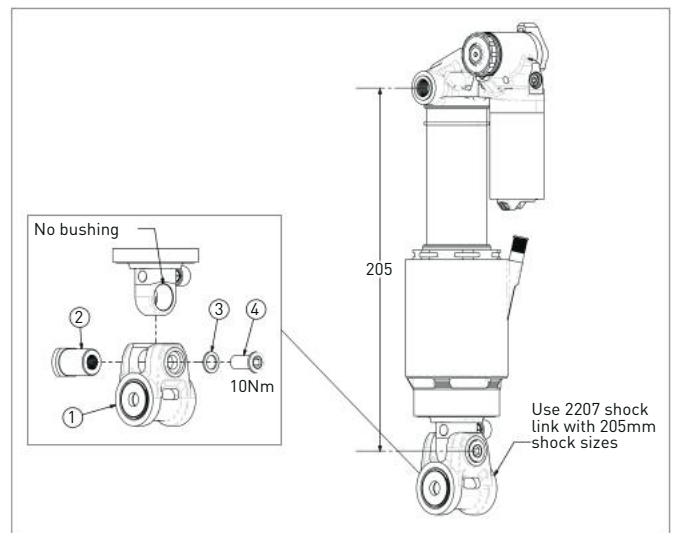

Figure 1
6. If the new or serviced rear shock is of a 205mm size, pre-assemble the 2207 shock link assembly to the rear shock (Fig. 1). Do NOT tighten to shock fixing bolt [4] yet, this is done after the assembly is fitted in the frame.
- Install the new rear shock/ rear shock + link assembly into the frame, loosely threading first the upper two trunnion bolts and secondly the lower flip chip hardware. Once all the hardware is loosely threaded, tighten first the upper two trunnion bolts (torque to specification in 3768 instructions), then the lower flip chip pin (torque to specification in 3744 instruction) and lastly the shock link fixing bolt (4 of Fig. 1) to 10Nm (if present).